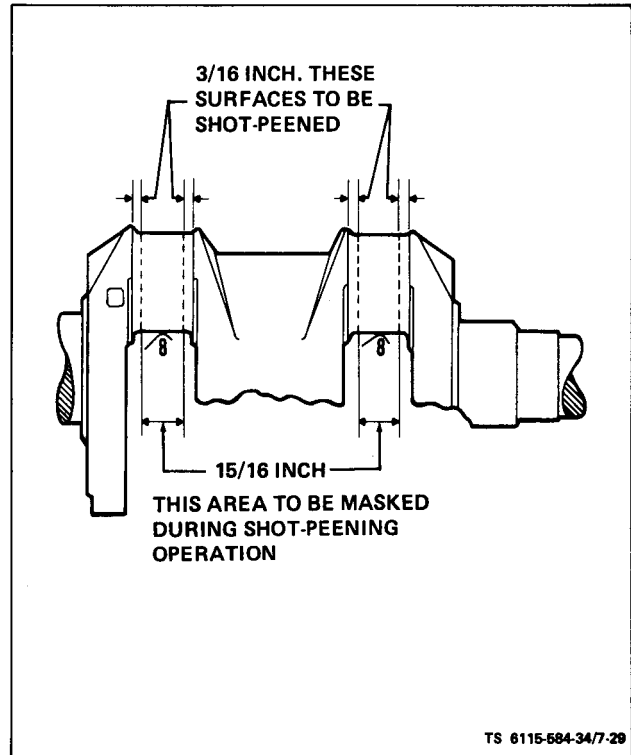

Figure 7-29. Crankshaft Peening
(1) Crankshaft. Clean crankshaft and blow out all oil passages. Check journals for out-of-round, taper, grooving or ridges. Pay particular attention to ridges or grooves on either side of oil hole areas. Unusual conditions here often point to previous neglect of oil changes. If journal dimensions are not within limits or journals are scored, metallize and regrind crankshaft to standards.
(2) Bearings. Replace bearings if clearances are greater than limits (see table 1-2), or if bearings are worn, grooved or broken.
(3) Rear Oil Seal. Inspect seal for wear or damage which might cause it to leak.
c. Rebuild Crankshaft. If crankshaft requires regrinding, metallize and regrind to standards. Special procedures must be observed when reworking diesel crankshafts. In addition to regrinding, the crankshaft must be shot-peened and super-finished. Failure to shot-peen the crankpin fillets is likely to cause early failure. When the shaft is reground, follow this data and figure 7-29 to shot-peen each crankpin fillet.
- (1) Almen gauge reading, 0.012-A.
- (2) Peen with 0.019 inch diameter cast steel shot.
- (3) Peen for 30-seconds on each crankpin fillet.
- (4) Mask off connecting rod bearing areas.